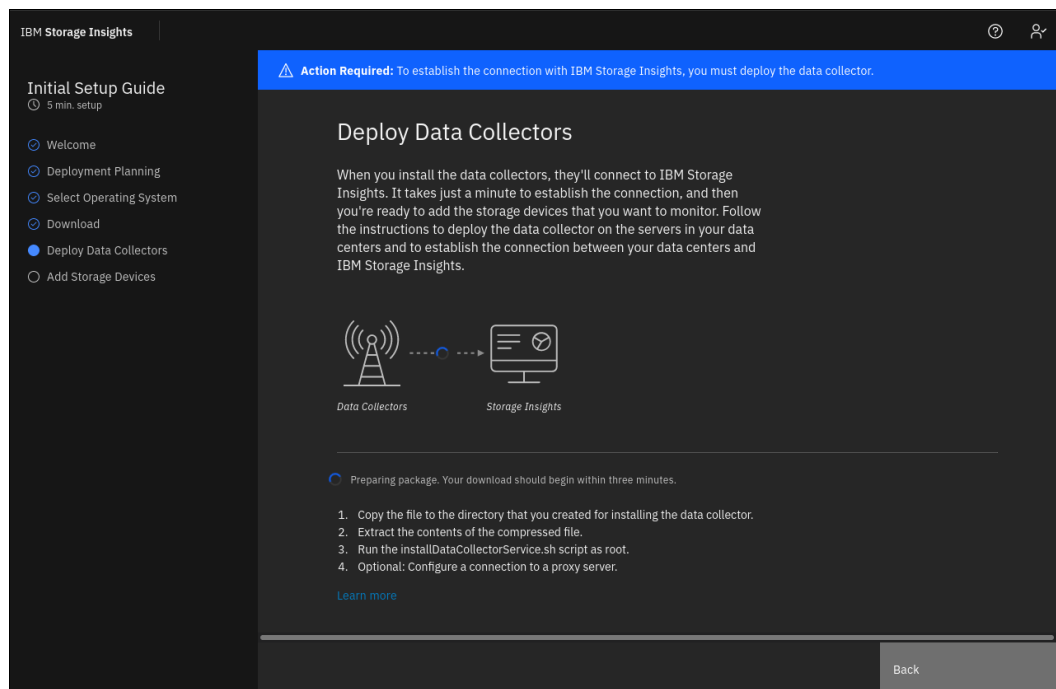

Figure 9-32 Downloading the data collector in preparation for its installation.
3. Follow the guidance in the Deploy Data Collectors window to download and deploy the data collector, as shown in Figure 9-32.